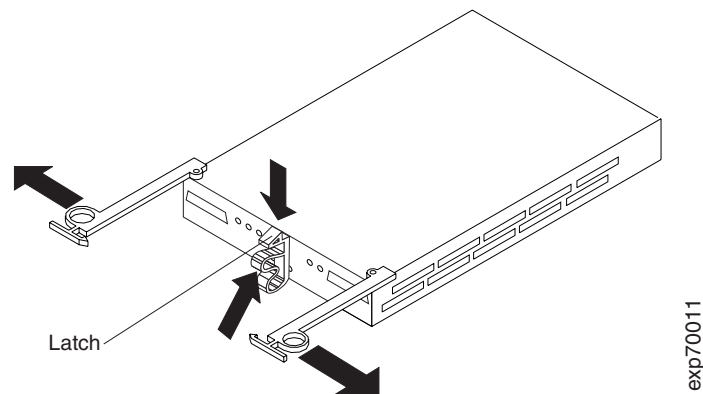

Figure 51. Removing the failed ESM
5. Be sure the Fault indicator LED is lit; then, push down on the ESM latch as shown in Figure 51.